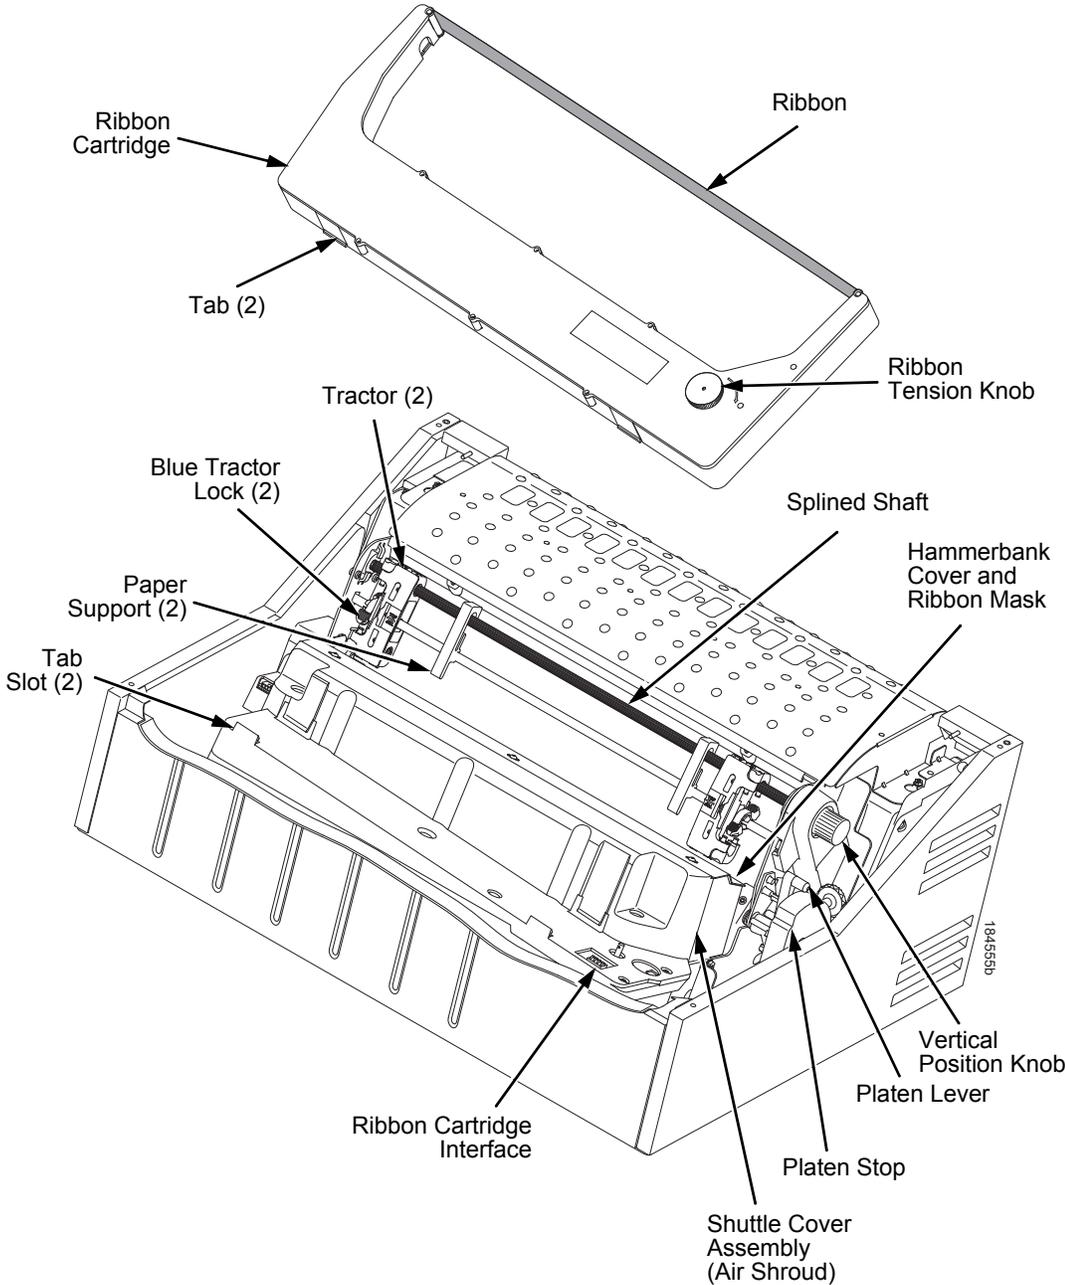

Figure 7. Printer Interior Components
7. Brush the paper dust and ribbon lint off the tractors, shuttle cover assembly, and base casting with a soft-bristled, non-metallic brush (such as a toothbrush). Vacuum up the residue. (See Figure 7.)
- NOTE:** To help steady the shuttle, be sure to obtain a shuttle stabilizer tool, P/N 255447-001 (see Figure 7 on page 259).
NOTE: To help steady the shuttle, be sure to obtain a shuttle stabilizer tool, P/N 255447-001 (see Figure 7 on page 259).